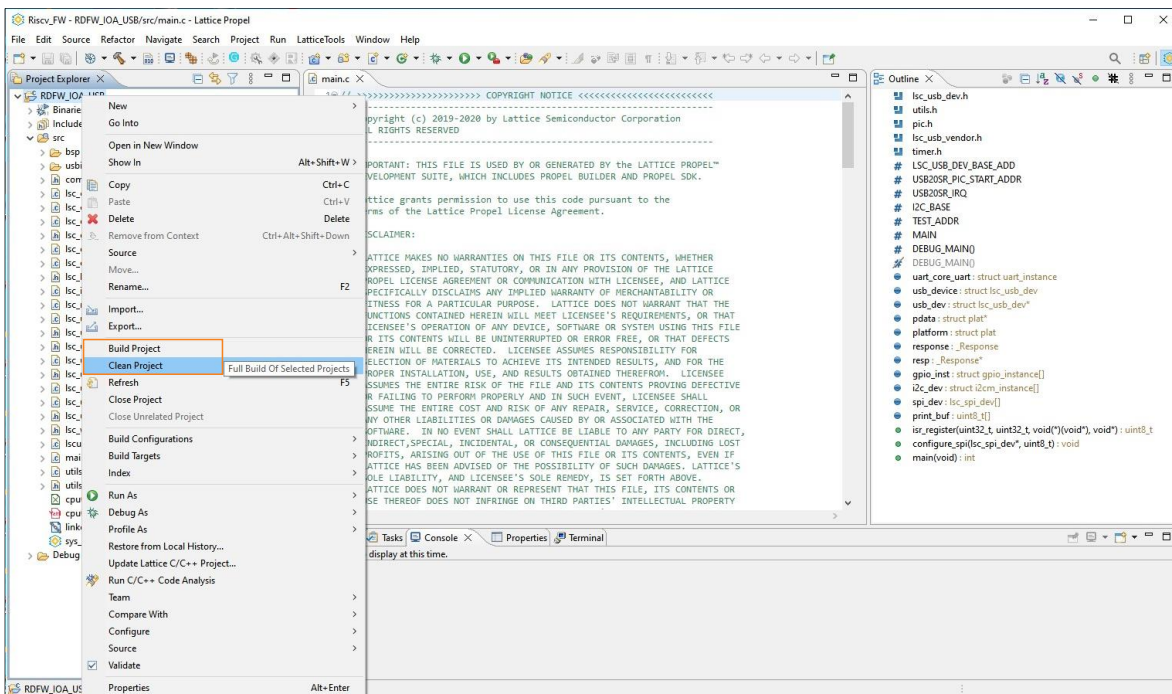

Figure 5.6. Launch the Project Building Process
2. To launch the project building process, right-click on the process name **RDFW\_IOA\_USB**, select **Clean Project** from the pull down menu to clean up the output folders. Then select the **Build Project** from the pull down menu, as shown in Figure 5.6.